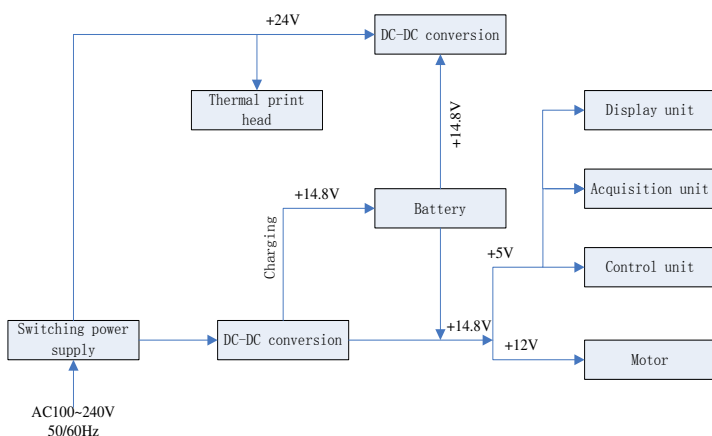

Figure4-1 Block diagram of power principle
(2) Principle block diagram is shown in Figure4-1.